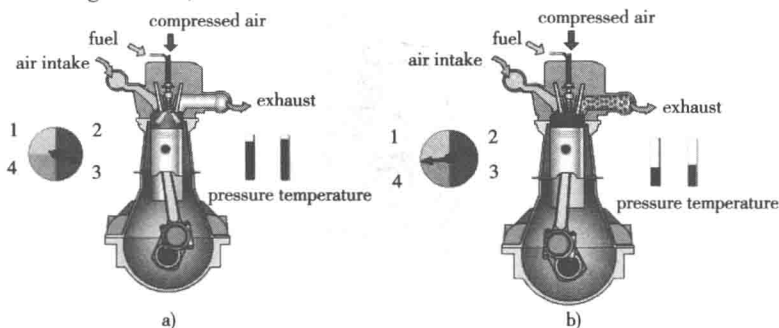

Figure 1-1 Power and Exhaust Stroke
The pressure created by the combustion of the fuel drives the piston downward. This is the power stroke (shown as Figure 1-1).
2. As the piston nears the bottom of its stroke, all of the exhaust valves open. Exhaust gases rush out of the cylinder, relieving the pressure (shown as Figure 1-1).